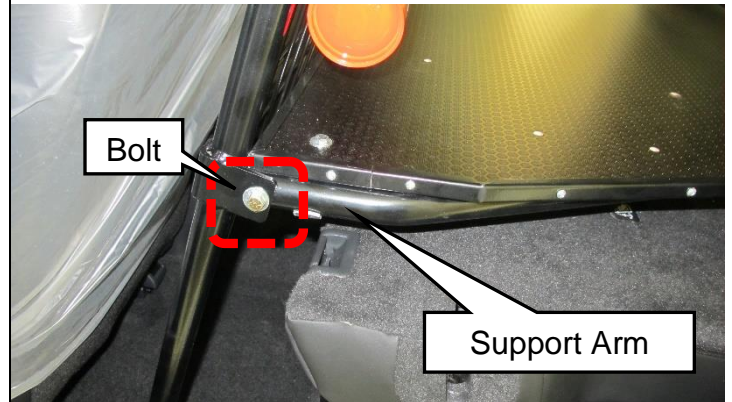

Figure 9
9. Remove the support arm to partition mount bolts/washers and nuts from both sides (Figures 9 and 10).